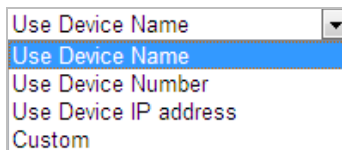

Figure 7-11 Parent Directory
- ◆ **Parent directory:** The files will be saved in a folder in FTP server. The name of folder can be defined as shown in following Figure 7-11.